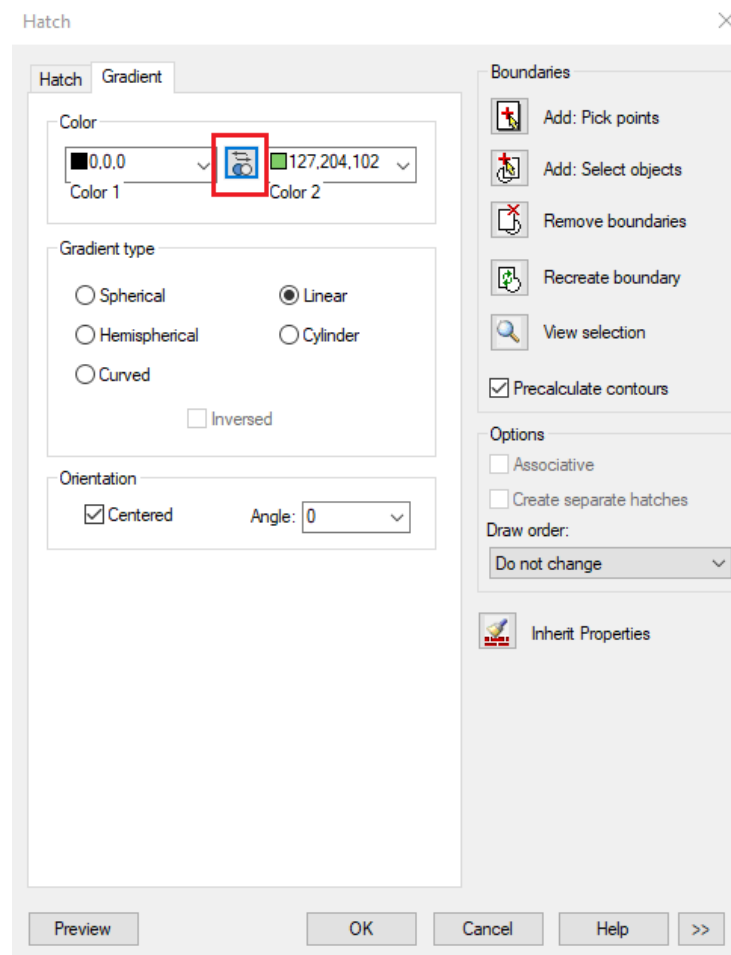

Fig. 24. Swap colors in gradient
8. Edit these gradients. Double click on one of them, then in the Hatch dialog that opens swap two colors (fig. 24):